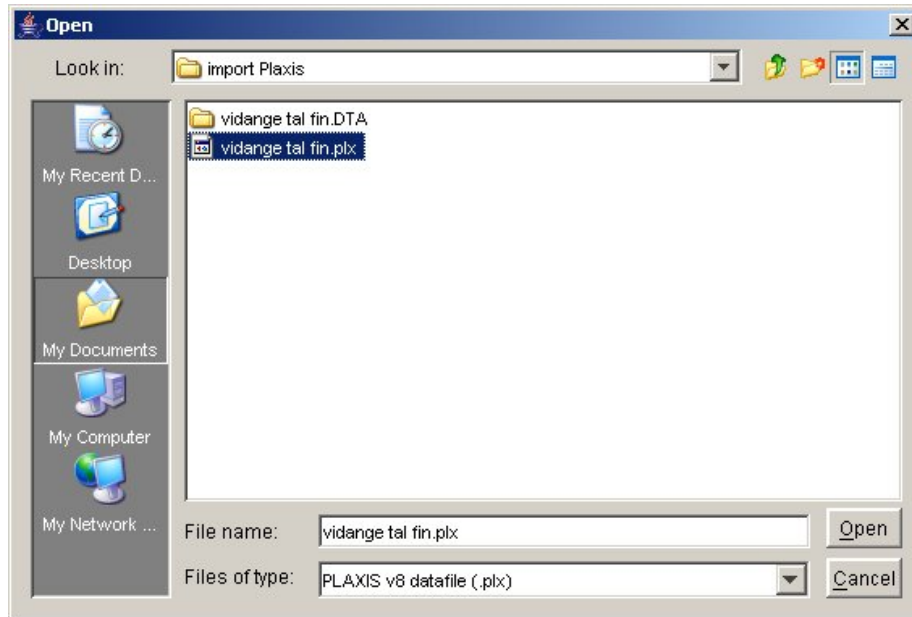
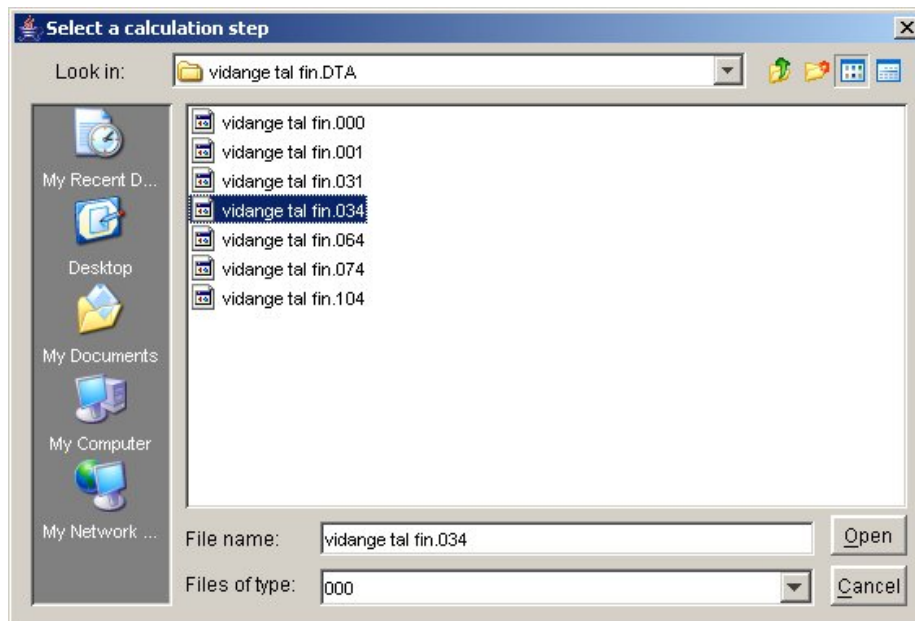

Figure 72: selection of the Plaxis file for pore pressures importation
Figure 73: choice of the calculation step for pore pressures importation
- Choose the file "vidange tal fin.plx" (Figure 72), then the calculation step n° 34 (Figure 73).